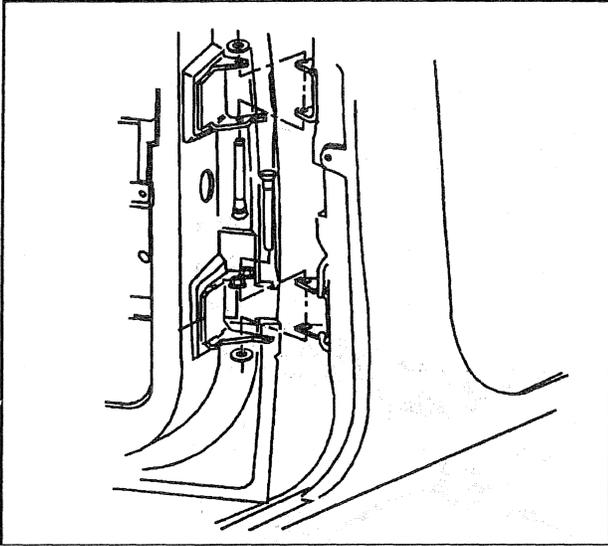

Figure 46—Rear Door Hinge Pin Removal (with power accessories)
3. Lower hinge pin retainer (figure 46).
4. Lower hinge pin using a soft-faced hammer and a pair of locking pliers to grasp the pin and drive it out (figure 46).
5. Upper hinge pin retainer (figure 46).
6. Upper hinge pin (figure 46).
3. Upper hinge pin with the pointed end up (figure 46).
4. New hinge pin retainer (figure 46).
5. Lower hinge pin with the pointed edge down (figure 46).
6. New hinge pin retainer (figure 46).